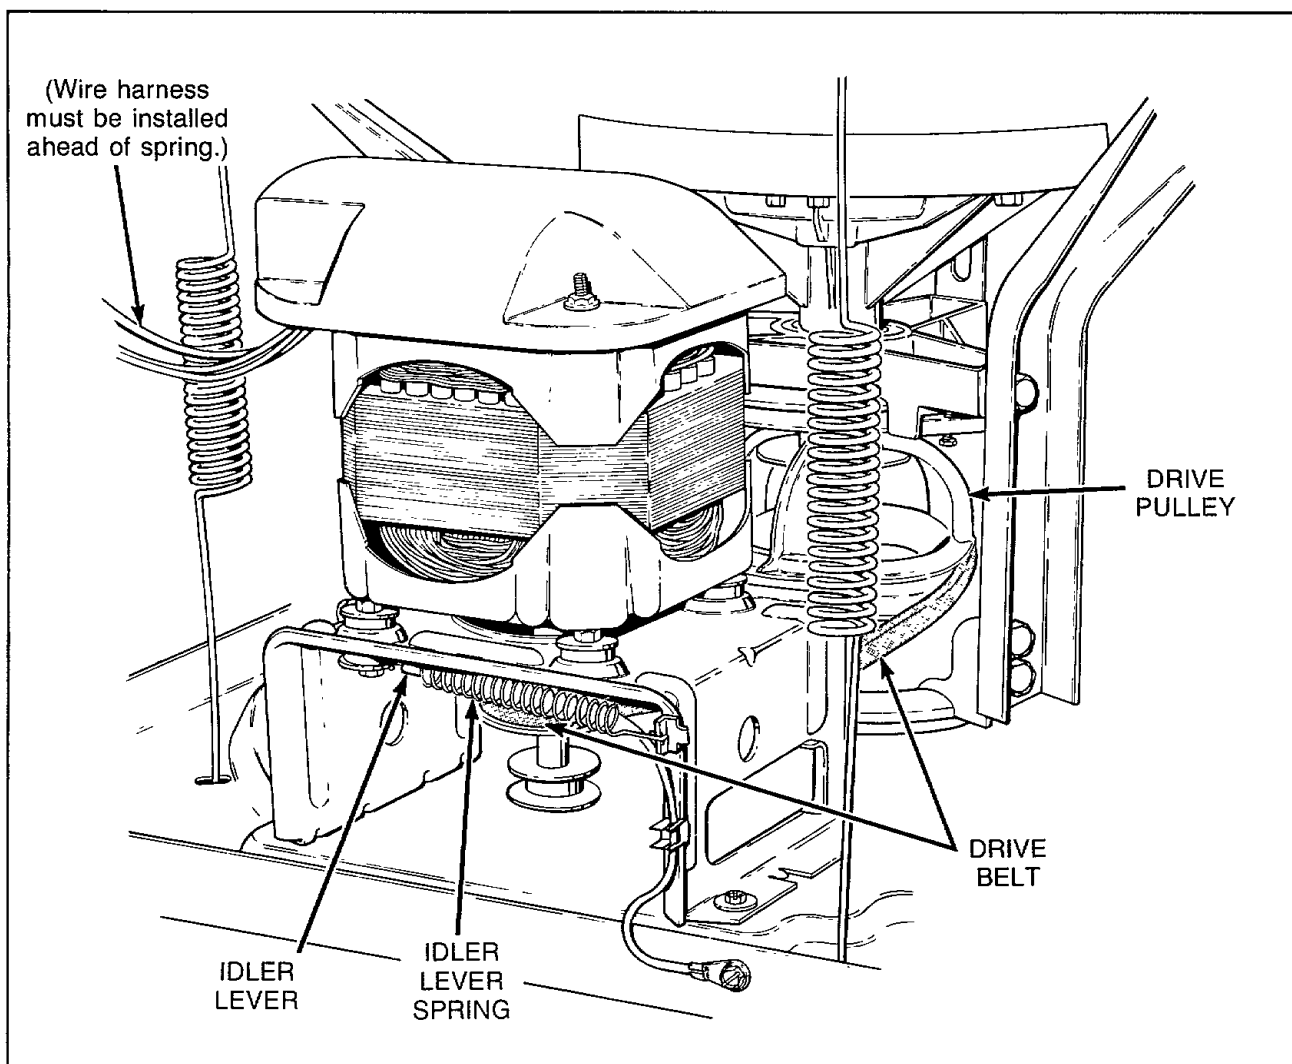

Figure 16
- e. Reach in through front of motor mount and move idler lever to the left to release tension on belt, *Figure 16*.
- f. While holding idler lever, reach around right side of motor and run belt off right side of large drive pulley, *Figure 16*.
b. Reach in and around right side of motor, starting with belt on right side of large drive pulley, run belt onto pulley, *Figure 16*.
- f. Reach in through front of motor mount and move idler lever to the left to release tension on drive belt, *Figure 16*.
- g. While holding idler lever, reach around right side of motor and run drive belt off right side of large drive pulley, *Figure 16*, then remove belt from motor pulley.